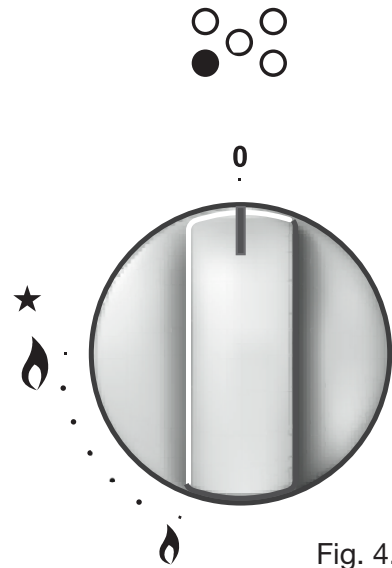

Fig. 4.1
Each hob burner is controlled by a separate gas tap operated by a control knob (fig. 4.1) which has 3 positions marked on the control panel, these are:
1) Press in the corresponding knob and turn counter-clockwise to the full flame position marked by the  symbol (fig. 4.1) and hold the knob in until the flame has been lit.